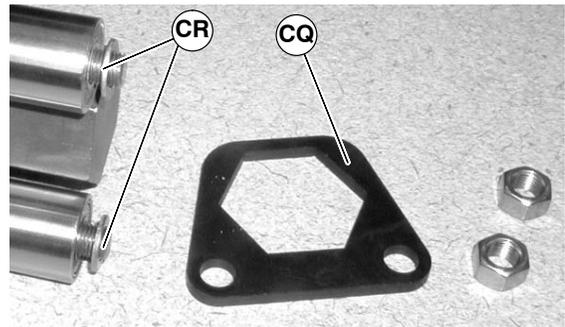

Figure 70
6. Remove support plates (CQ of Figure 70) and washers (CR).